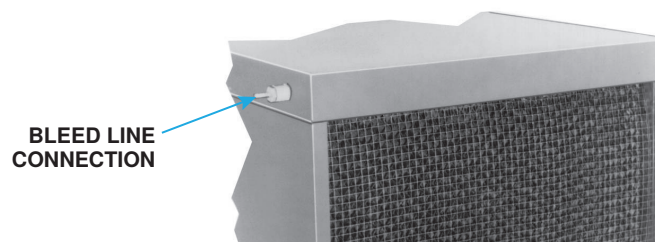

Figure 10. Bleed Line Connection
- Thread the 1/4 ID × 1/2 NPT nylon bleed line fitting (shipped in the cooling module's bottom pan) into the female adapter on the distribution pipe. The hose barb protrudes from the air inlet side of the module cabinet (see Figure 10). Connect a 1/4 ID hose to the barb and run to the nearest drain.
- c. If it is necessary to adjust float valve to obtain proper water level or to free float valve from obstructions, carefully bend float valve rod (see Figure 10) upward to raise water level or downward to lower water level.